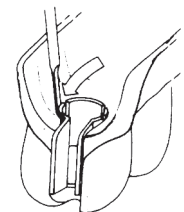

Fig. 17
12. Remove Rubber Sep from around the retention flanges to allow them to function. If more room is required, place a hot spatula between the retention flanges and acrylic to burn out some of the resin (Fig. 17). If the Fabricating Plug was used during processing of the Standard Dalbo, it is best to send it and the spring to the dentist to use during equilibration.